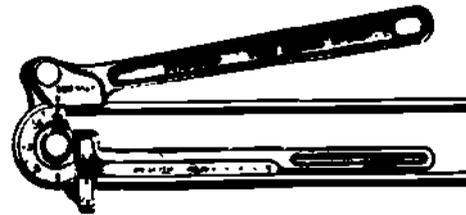

Figure 1-63. Lever Type of Tubing Bender
b) Three of the more common types are shown in Figures 1-63 to 1-65: the lever, geared-ratchet, and outside-spring types.